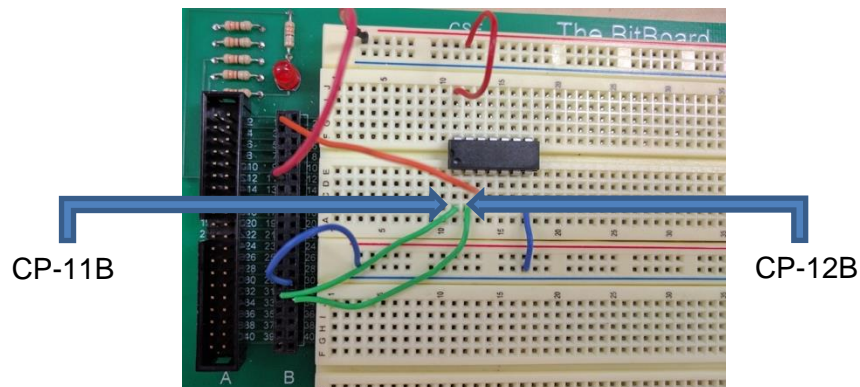

Figure 8 - Connecting Gates to Vcc, GND, and I/O.
The *green* wires in Figure 8 are the 2 inputs to a NAND gate where the 1st and 2nd pins of the IC are connected to 11E and 12E, respectively, which in turn are connected to the Bitboard Pin 31 and Pin 32 which are SW0 and SW1, respectively. The output pin is the 3rd pin of IC which is connected to 13E which is connected using the orange wire to Bitboard Pin 1 which is LED0.
Note that each IC chip contains multiple gates. However, for this exercise it's only necessary to use one gate per chip. Figure 8 shows a typical wiring layout for this experiment. Chip pinouts for this and other chips are shown in the Appendix.
1. **Experimentally derive the truth table of an AND gate.** An SN74xx08 2-Input Quad AND chip has been pre-inserted and pre-wired on your BitBoard as shown in Figure 8. The chip contains four 2-input AND gates. Hence, the nomenclature QUAD! You'll be using only one gate in this experiment (input pins 1 and 2, output pin 3). Refer to pinout diagram below.